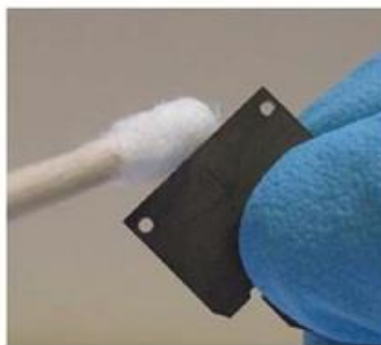

Figure 4-5 Cleaning the sample blade face
2. **Add acetone to a cotton tipped applicator or Q-tip and gently brush the cotton swab across the sample blade face and blade-specimen surface (Figure 4-5)**